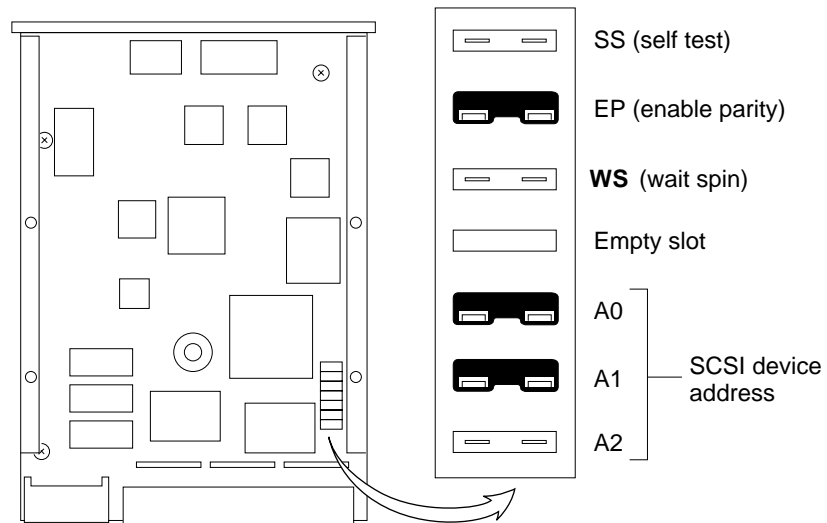
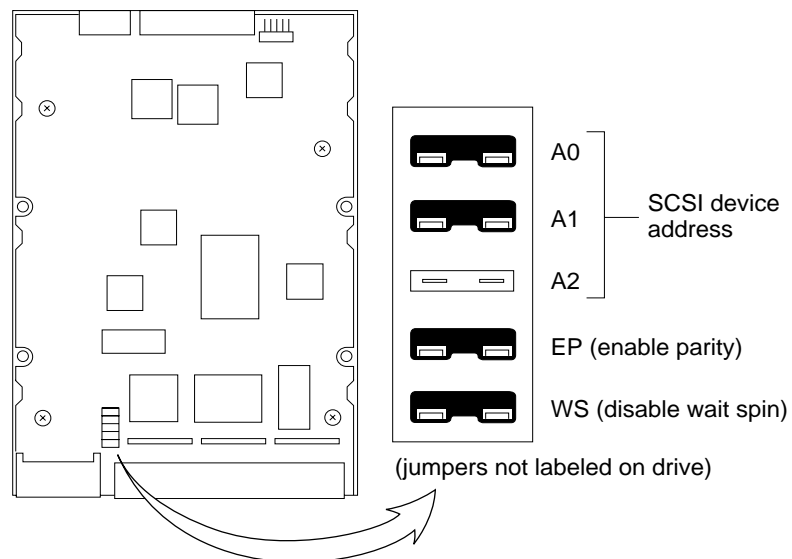

Figure 4-11 Jumper Settings for Hard Drives with Six Jumpers (settings labeled)
Figure 4-12 Jumper Settings for Hard Drives with Jumpers Near the Lower Left Corner (settings not labeled)
The number of jumpers and their location on the drive's controller board depends on the drive shipped with your system. Use Figures 4-11 through 4-14 to verify the jumper settings on your hard drive.
The drive shown in Figure 4-11 has six jumpers located near the lower right corner of the drive. The jumpers are in two blocks of three jumpers, separated by an empty jumper slot (no pins).
The drive shown in Figure 4-12 has five jumpers located in one block near the lower left corner of the drive.
**Note** – The labels for the jumpers on the drive shown in Figure 4-11 are etched onto the drive's controller board. The jumpers on the drive shown in Figure 4-12 are not labeled.